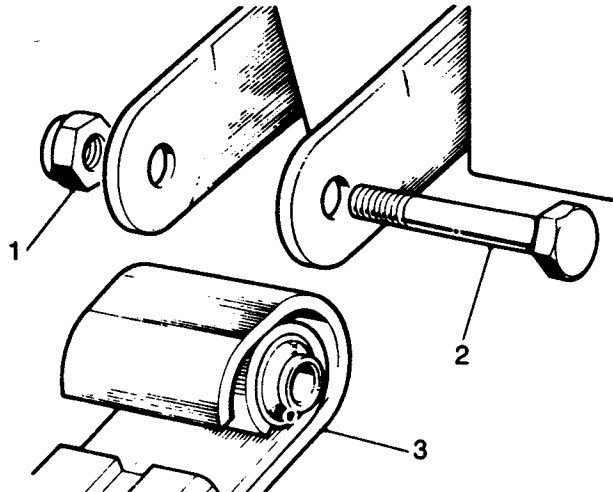

Fig 14.3
- (7) Refer to Fig 14.3. Remove the self-locking nut (1) from the shackle pin in each spring eye.
- (8) Remove the shackle pin (2) from the rear end of the spring, the pin is threaded into the inner shackle plate.
- (9) Remove the shackle pin from the front end of the spring.
- (10) Remove the road spring (3) complete.